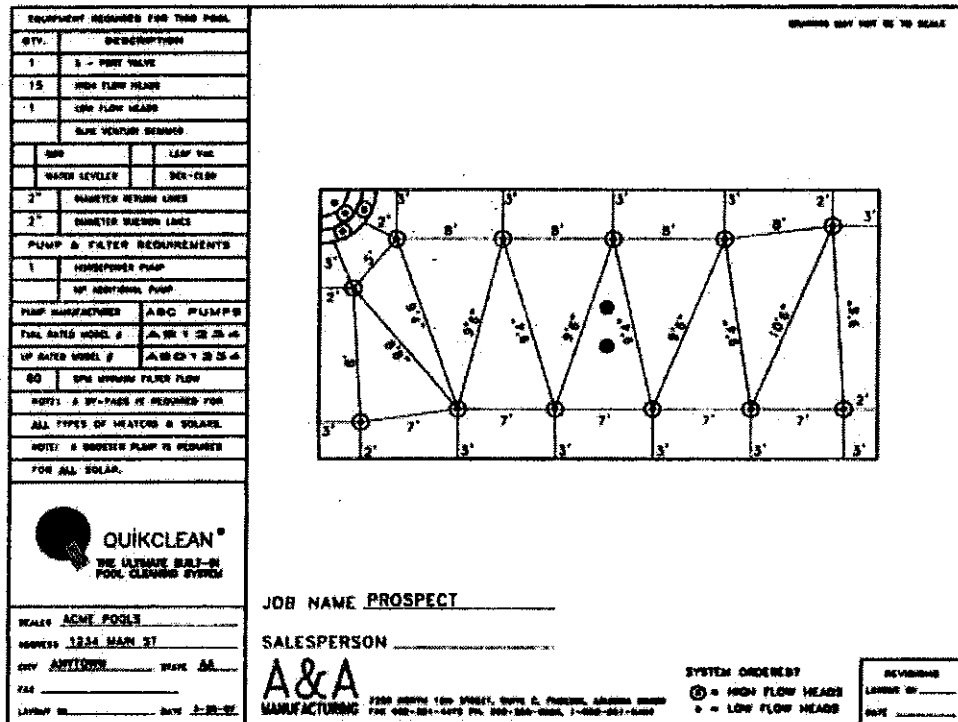

Figure 7-1
1. Make sure to have the A&A Certified Design Layout available for fast reference (See Figure 7-1).